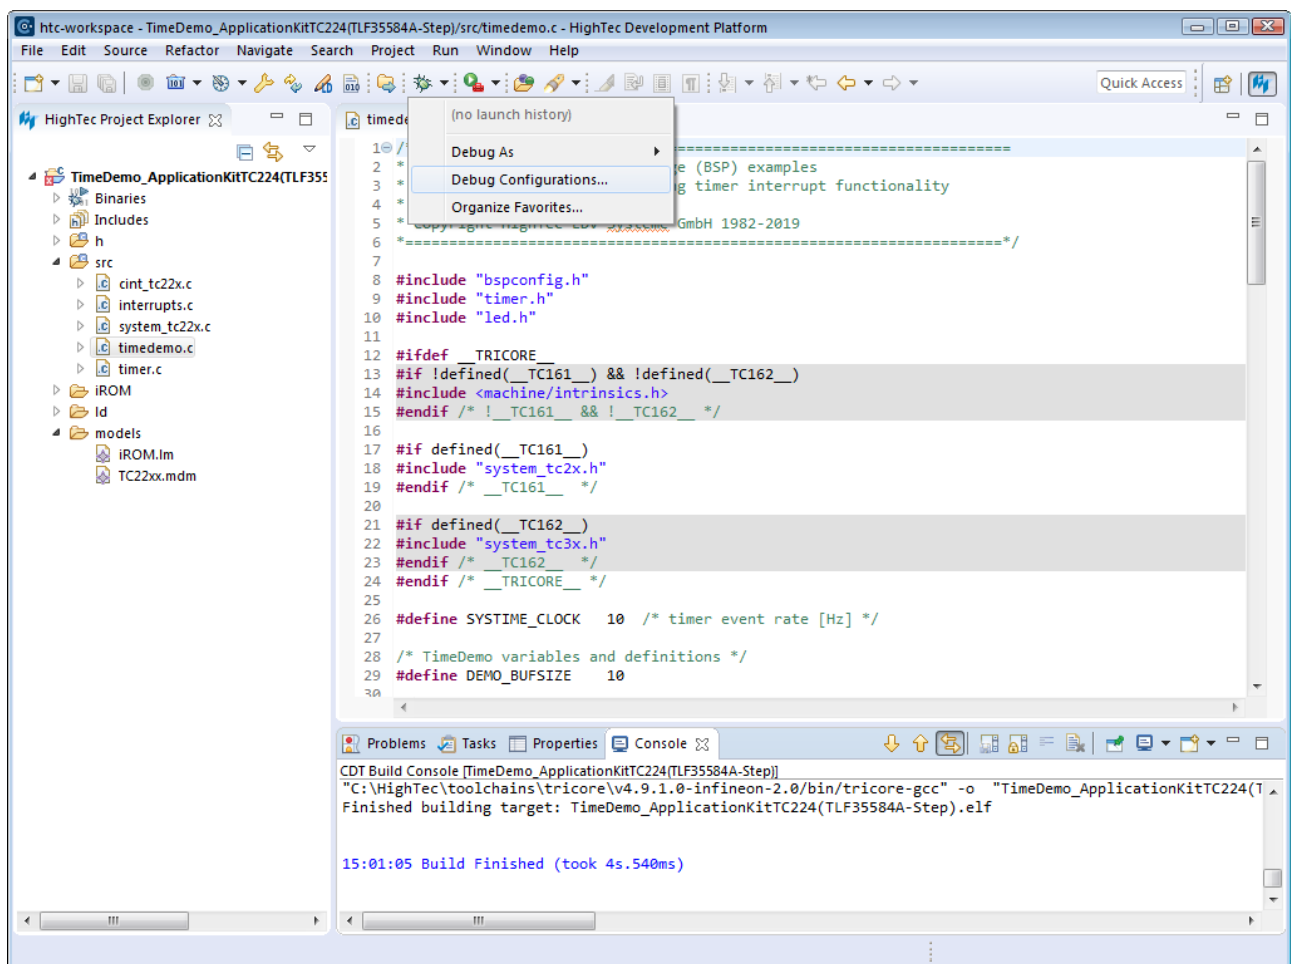

Figure 32 Select Debug Configurations dialog via Debug button
1. Click at the debug button  and select **Debug Configurations ...** (Figure 32).